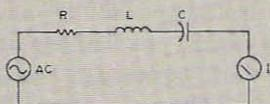

Fig. 4. Series LCR circuit
To facilitate ease of understanding, let us look first at series resonance as shown in Fig. 4. At a given frequency, ac voltage in the circuit causes L and C each to have a reactance according to its value. If we change the input frequency, reactance values of L and C also will change. The value of R (pure resistance in the circuit) always remains constant. The difference in reactance between L and C thus represents an opposition to current flowing in the circuit. By adding this reactance value to the value of pure resistance, we arrive at the total circuit opposition to alternating current at a particular frequency. This value is called *impedance* (Z).
Looking at the circuit in Fig. 4, it can be seen that at the resonant frequency, the ammeter (I) would read a maximum current flow. At all other frequencies the reading would be lower. The circuit, in effect, allows current at one frequency to pass while impeding current of all other frequencies.